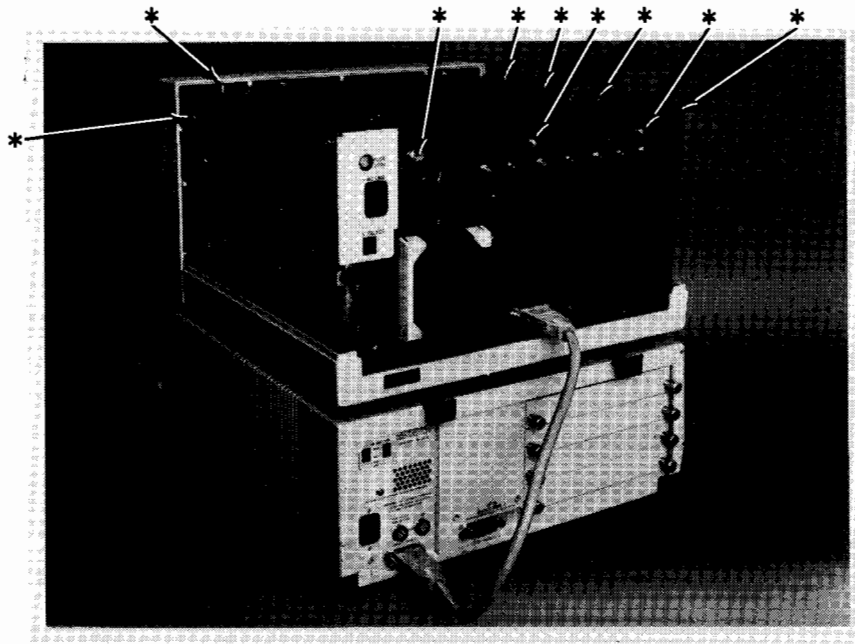

Figure 4-13. 9836C CRT/High Voltage Cover Fasteners
2. The CRT/high voltage cover is fastened with nine screws. In either case, remove the fasteners (shown in Figure 4-13). Then lift the CRT/High Voltage Cover straight up.